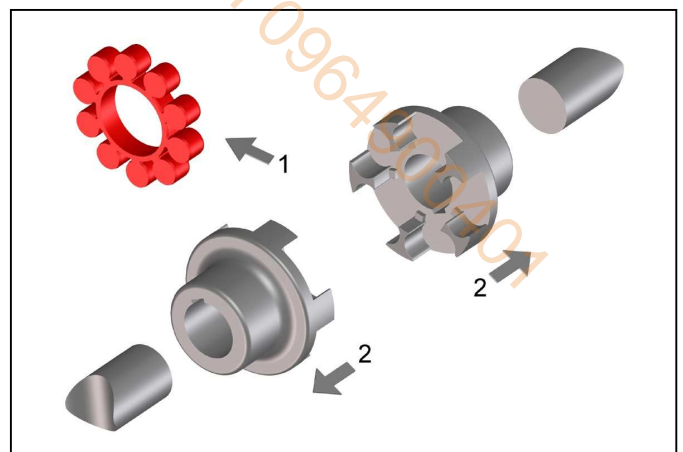

Fig. 3
- Remove the elastic buffer ring (Fig. 3, pos. 1).
- Mount the coupling hubs in the proper position on the shaft ends (Fig. 3, pos.2)